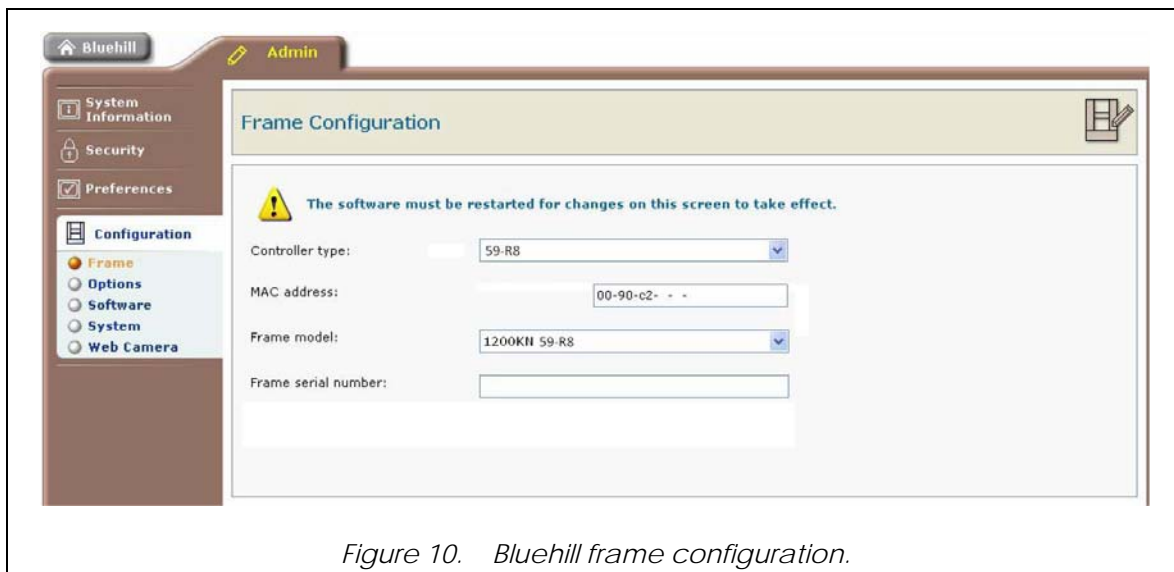

Figure 10. Bluehill frame configuration.
- iv. Select **Frame** in the navigation bar (see Figure 10).